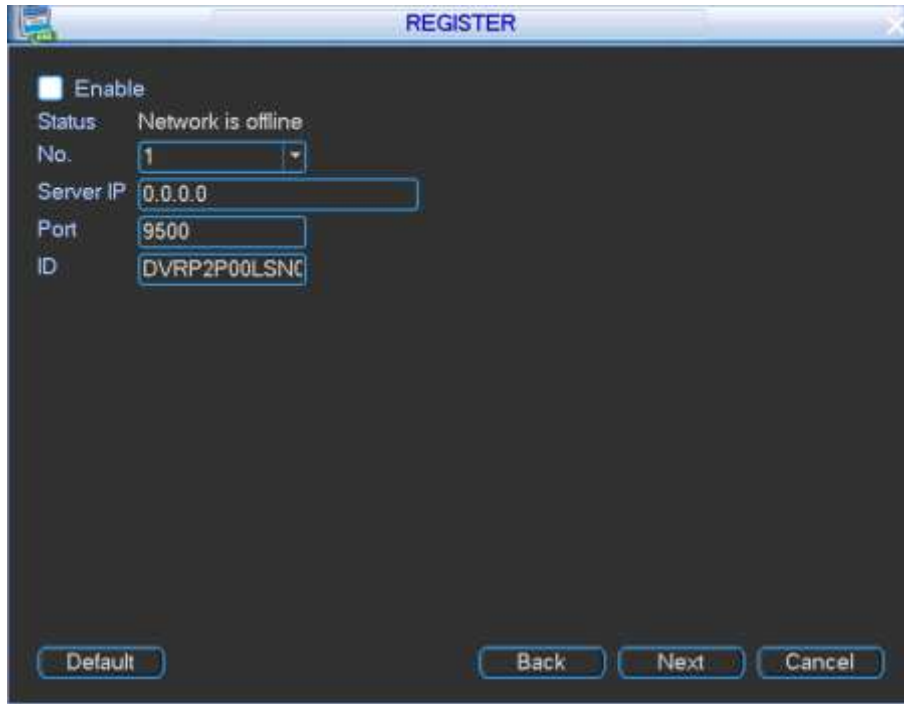

Figure 4-8
- Step 7 Click Next button, enter Register interface. See Figure 4-8.